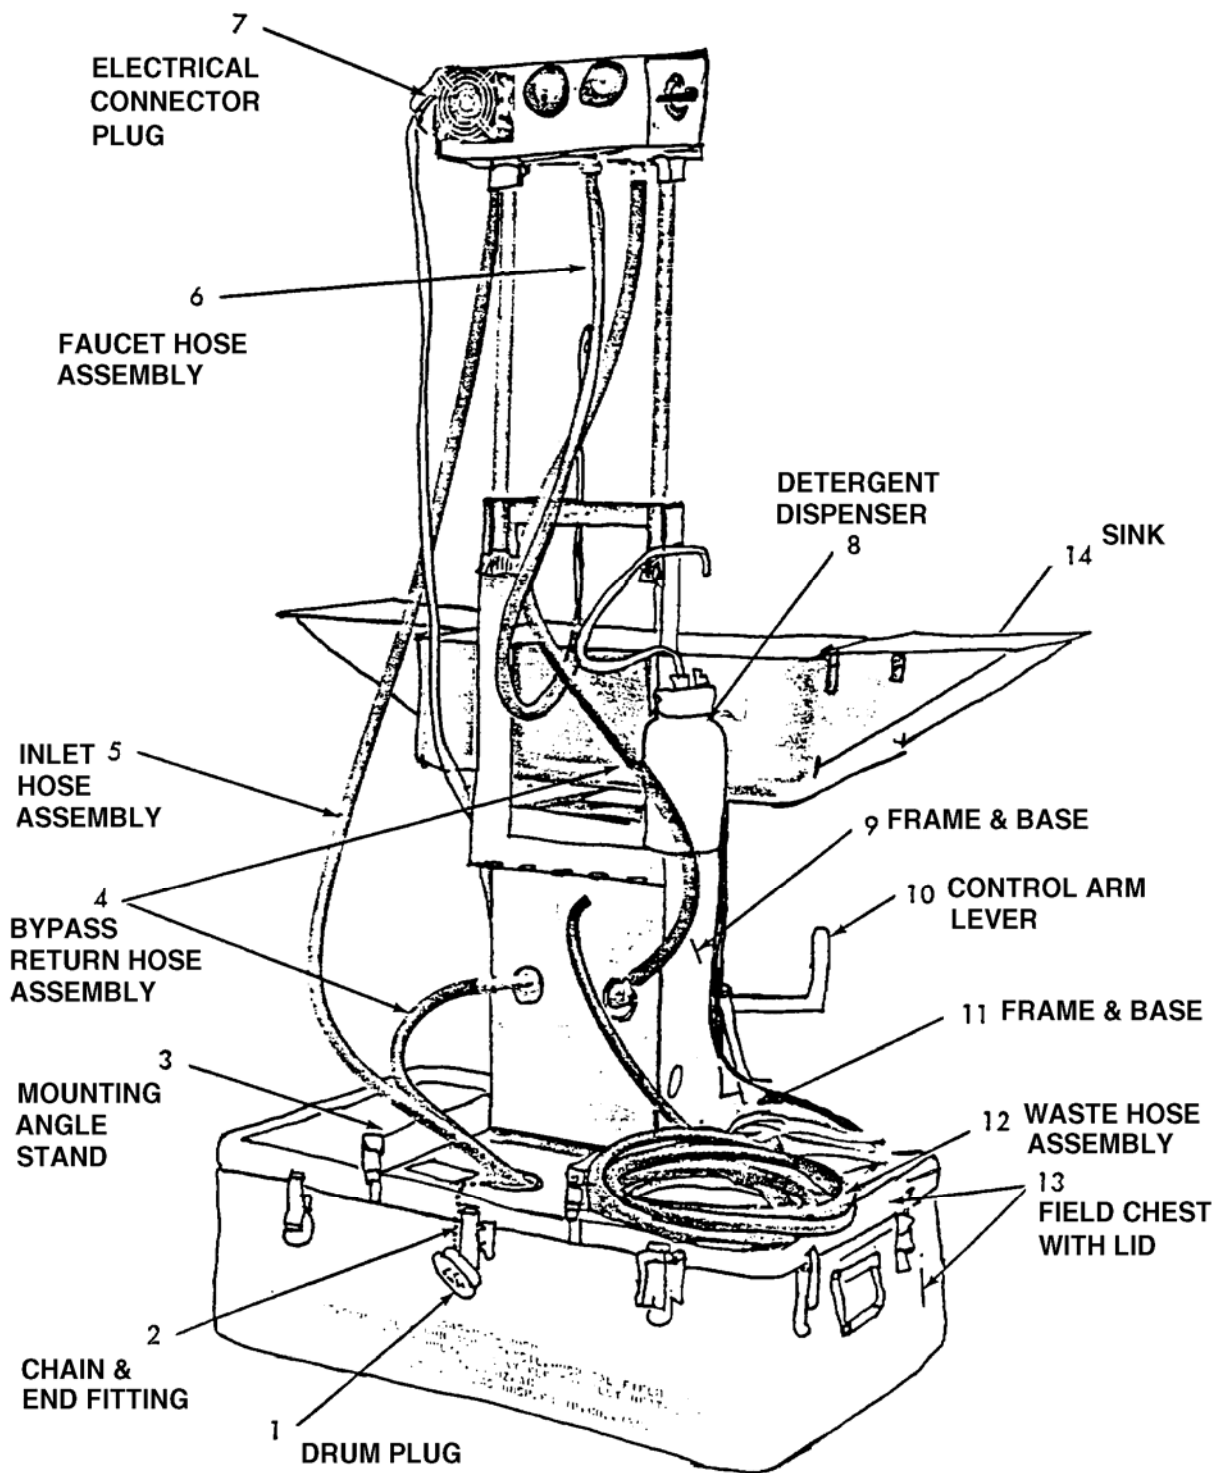

Figure 2-3. Sink unit (rear view).
The sink consists of three major components. The following paragraphs describe the components. Refer to figure 2-3.
a. **Base Section.** The parts in the base section serve a dual purpose. The pieces provide a carrying case for all the other components when the unit is transported or stored. When the sink is assembled for use, these parts provide a base and reservoir for the unit. A grounding strap and clamp, the knee controlled valve, and related hoses and fittings are located in the base section. See item 13 in figure 2-3.
b. **Sink Section.** The parts in the sink section in figure 2-3 are the sink (item 14), a detergent dispenser (item 8), a faucet (item 6), and the necessary hoses and fittings.
The sink is packed in a disassembled form within a field chest (item 13 in figure 2-3). The field chest provides a sturdy, reinforced carrying, shipping, and storage case. If the case is in good condition, it is a water tight case. To assemble the sink, perform the procedures in the following paragraphs.